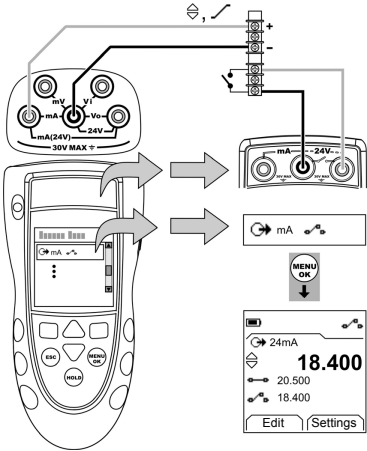

Figure 5: Example configuration - Switch test
- 1. Connect the instrument (Figure 5) and, if necessary, adjust the *Set Up* (Table 1).